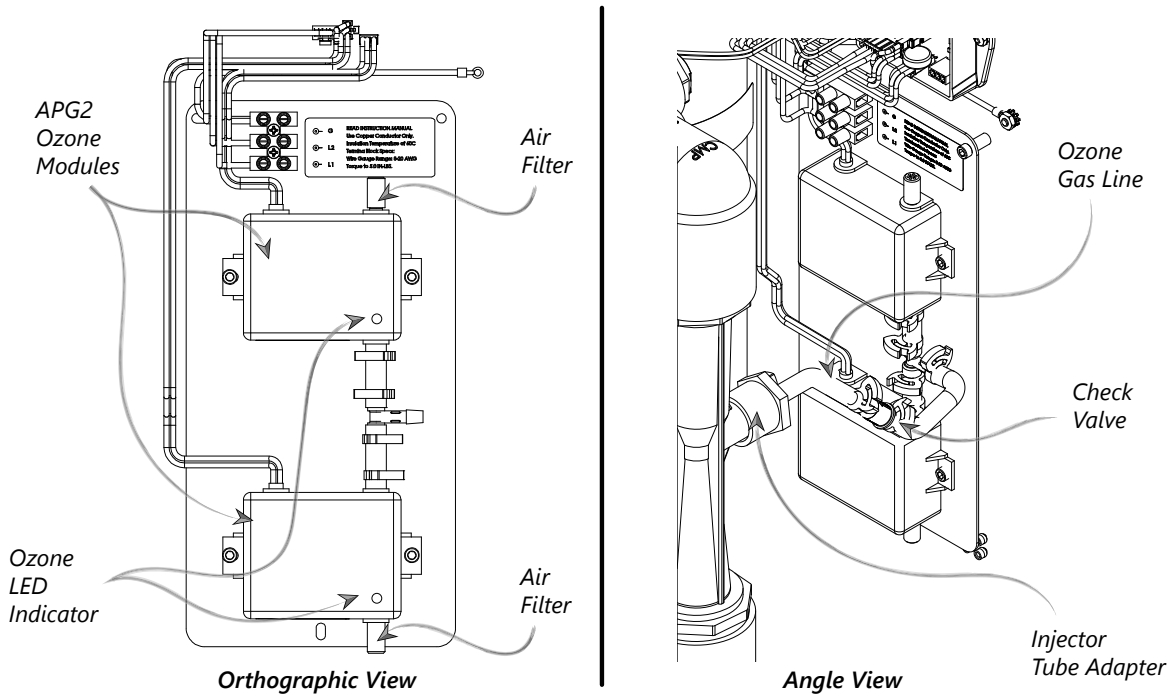

Figure 11: Ozone Generator System Overview
The air entering the ozone modules passes through the air filter (refer to Figure 11) on each module inlet. The filter is held in place by the rubber filter cap.
4. Orient ozone gas line as shown in Figure 11. Re-connect it on both ends and clamp tight.
3. Install new ozone air filter (P/N 9-0858-01) on ozone generator air barb as show in Figure 11.